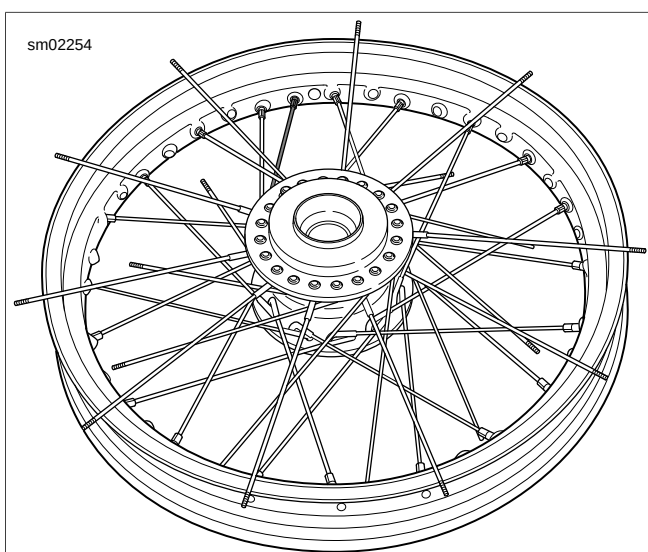

Figure 2-40. Beginning Spoke: Top Flange Inner
- a. See Figure 2-40. Verify spoke reaches spoke nipple and secure spoke by hand. Follow pattern to complete top flange inner spokes (long head).